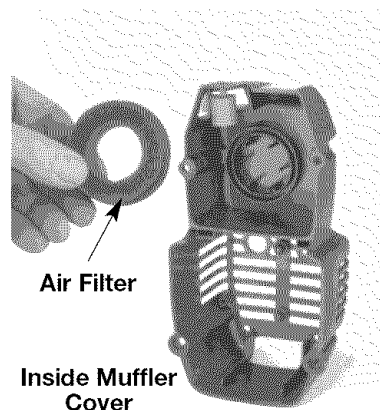

Fig. 17
2. Turn cover over and look inside to locate the air filter. Remove the air filter from inside the air filter/muffler cover (Fig. 17).
6. Replace the air filter inside the air filter/muffler cover (Fig. 17).